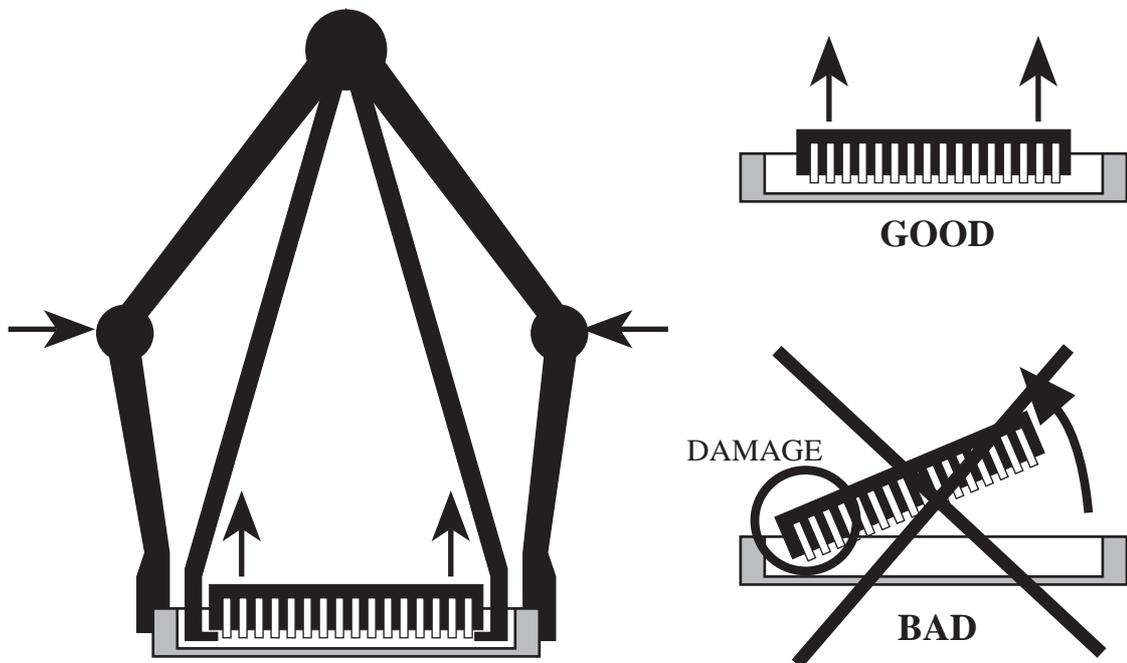

Figure 44: Correct and wrong ROM extraction operation. On the left, the ROM extraction tool.
- Use a specific extraction tool to push out the EPROM, very carefully, and in a parallel way as indicated in figure 44.